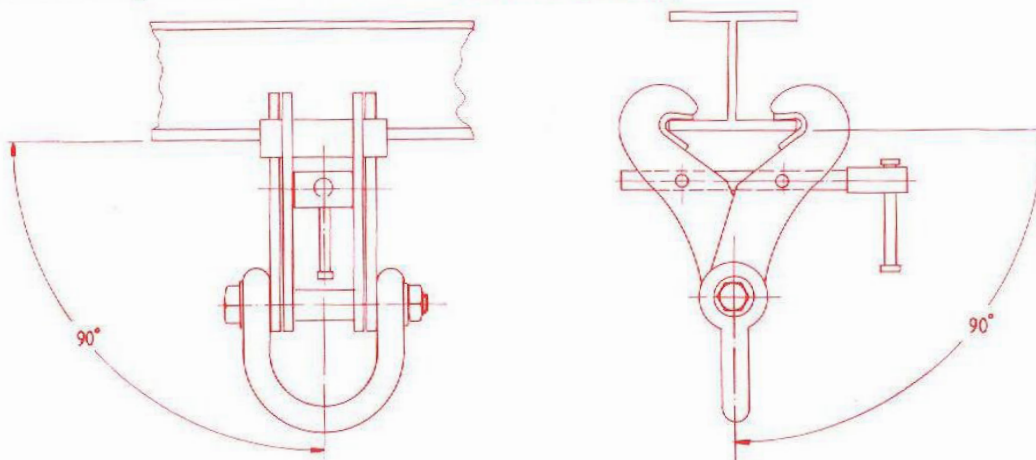

Fig 11.2
- 11.3 The majority of clamps are designed for in-line i.e. the line of force must be at right angles to the flange of the beam to which it is attached (see fig 11.2)